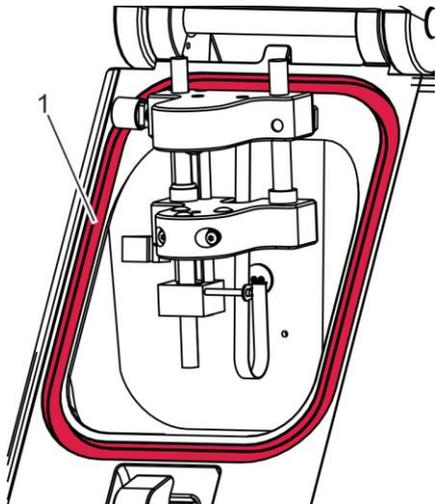

Fig. 32: Cleaning the bearing
2. Remove particles of dust and other residue from the bearing for the O-ring (Fig. 32/1).